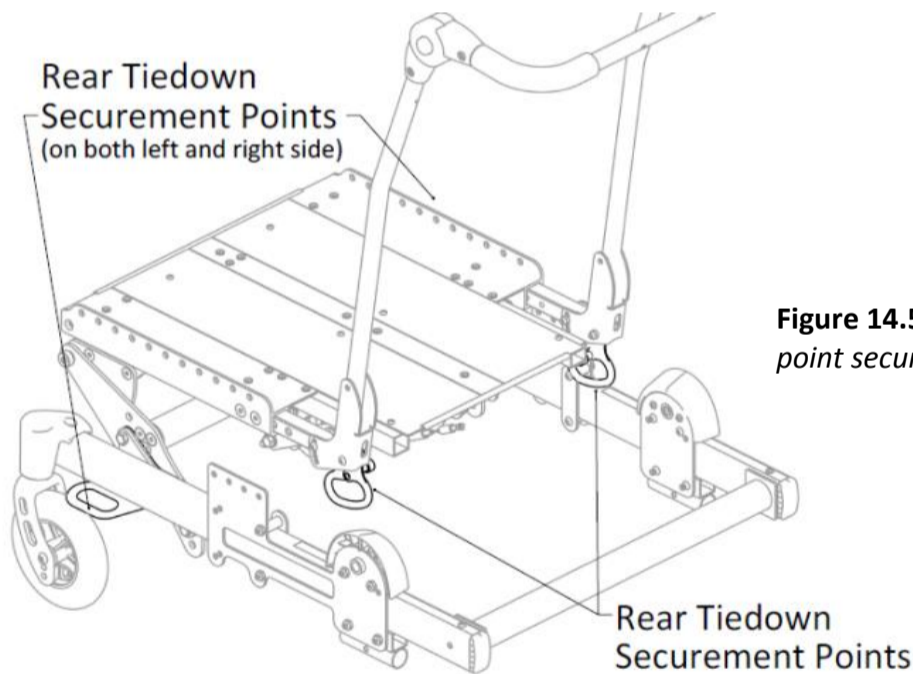

Figure 14.50: *Transit Tiedown 4 point securement location.*
4. The Stellar Transit Tiedown System is designed for a four-point (two front, two rear) strap-type tiedown system (Figure 14.50). Attach the WTORS in accordance with the manufacturer's instructions and RESNA WC-4:2012, Section 18 or ISO 10542-1:2012- Part 1.